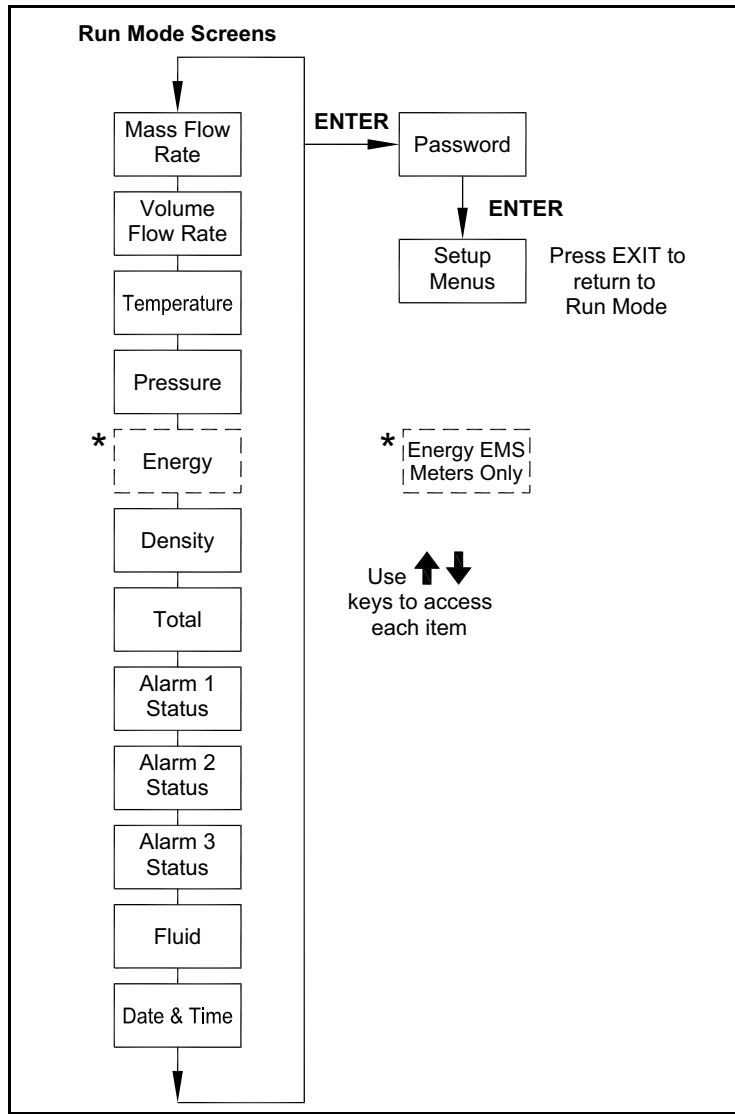

Figure 96: Run Mode Screens
3. Run Mode displays flow information based on system settings. As a result, some of the screens shown in *Figure 96* below may not be displayed. Press the $\uparrow \downarrow$ arrow keys to view the Run Mode screens.